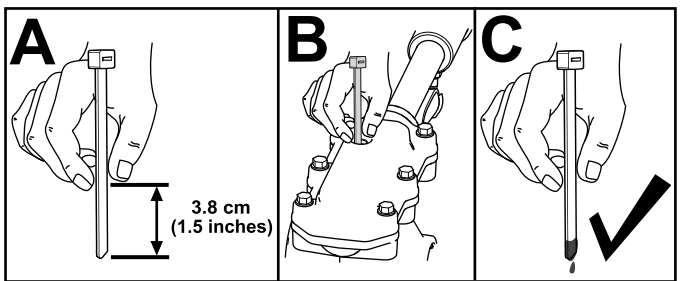

Figure 38
3. Check the oil level using a suitable measuring device, such as a clean cable tie. The oil should be approximately 3.8 cm (1.5 inches) below the filler opening (Figure 38).